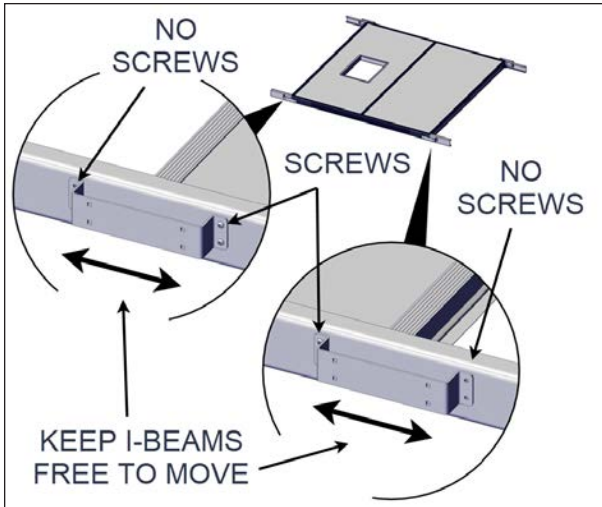

FIGURE 46: OTHER POST BRACKET INSTALLATION
9. Repeat the previous step for the remaining brackets see Figure 46.